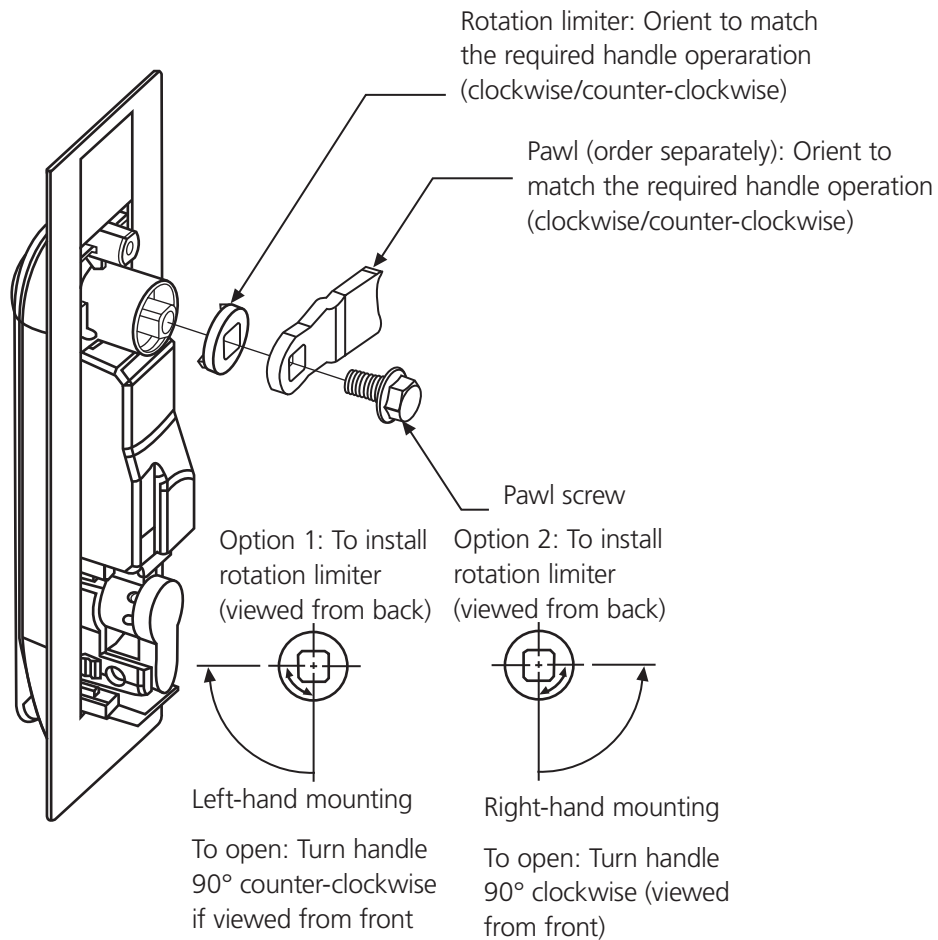

Figure 13. Installing the pawl on the door lock.
- The pawl is installed as shown in Figure 13. Pay particular attention to the rotation limiter. This is installed as shown, depending on whether you have a right- or left-hand opening door.